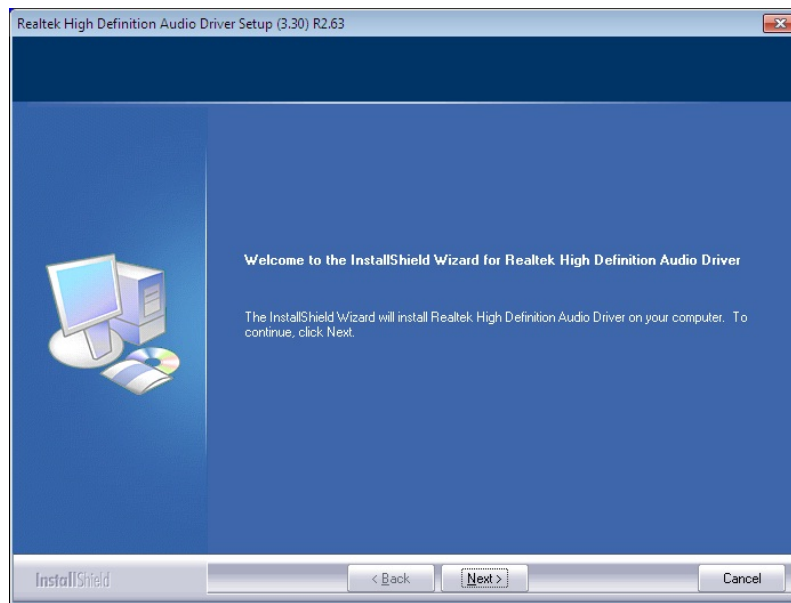

Figure 6-17: Audio Driver Welcome Screen
Step 6: The **Welcome** screen in **Figure 6-17** appears.